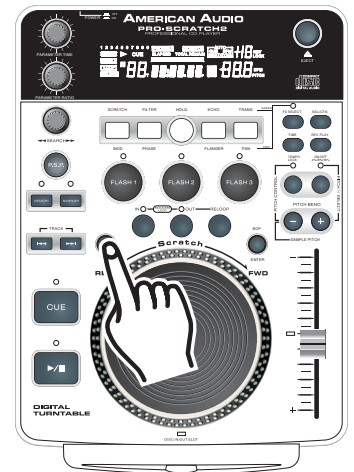

Figure 62
**STEP TWO:** Select the **FX MIX BUTTON (13)** to activate the FX Mix Mode as in figure 62.